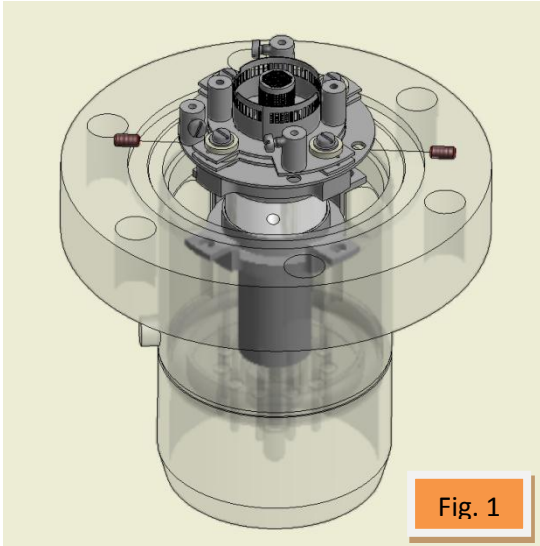

Fig. 1
4. Loosen the two grub-screws highlighted in red that secure the ion-source, see Fig.1.